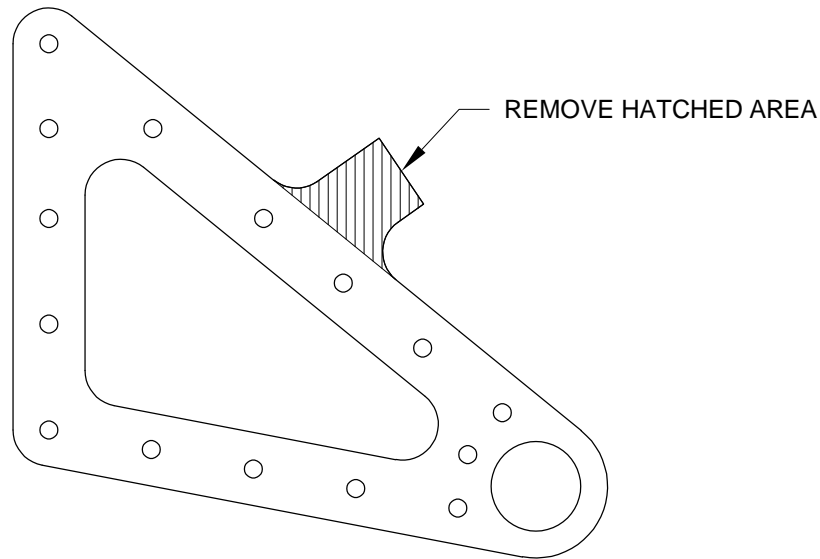

FIGURE 1: HINGE BRACKET SPACER TRIM FOR OUTBOARD AILERON HINGE BRACKET ASSEMBLIES
Step 1: Trim off the tab on both W-1013A Aileron Hinge Bracket Spacers as shown in Figure 1.